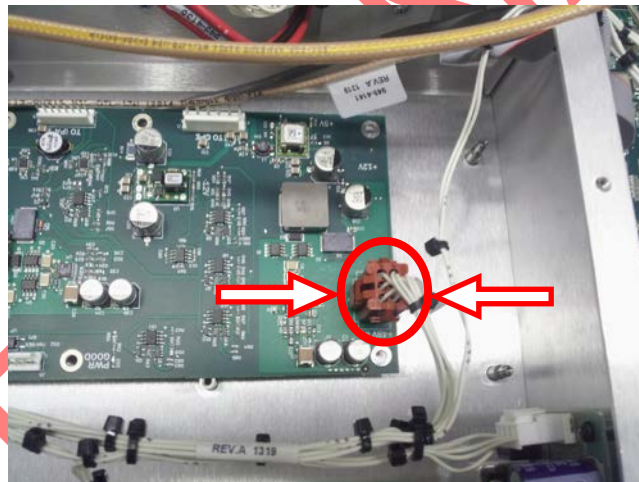

Figure 35 – DC Regulator Cable Latch
3. Pop the board assembly off the four corner snaps. Set the board about an inch to the side to the position shown in Figure 35.